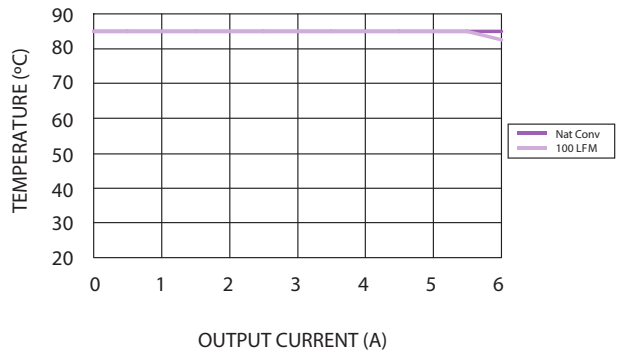

Figure 3 - Safe Operating Area for PTH12050L
- The pk-pk output ripple voltage is measured with an external 10 µF ceramic capacitor. See Figure 3 for Standard application schematic.